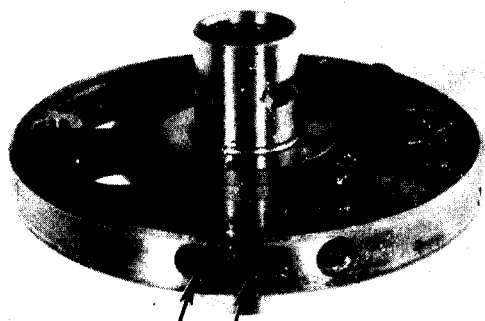

FIG. 4.57-CHECK VALVE LOCATION (2)
10. It is usually not necessary to remove the two check valves located in pintle bores as shown in Fig. 4.57. The check valve balls must roll free in the pintle bore by their own weight. If the pintle is shaken the balls can be heard if they are rolling free. To remove the check valves proceed as follows: